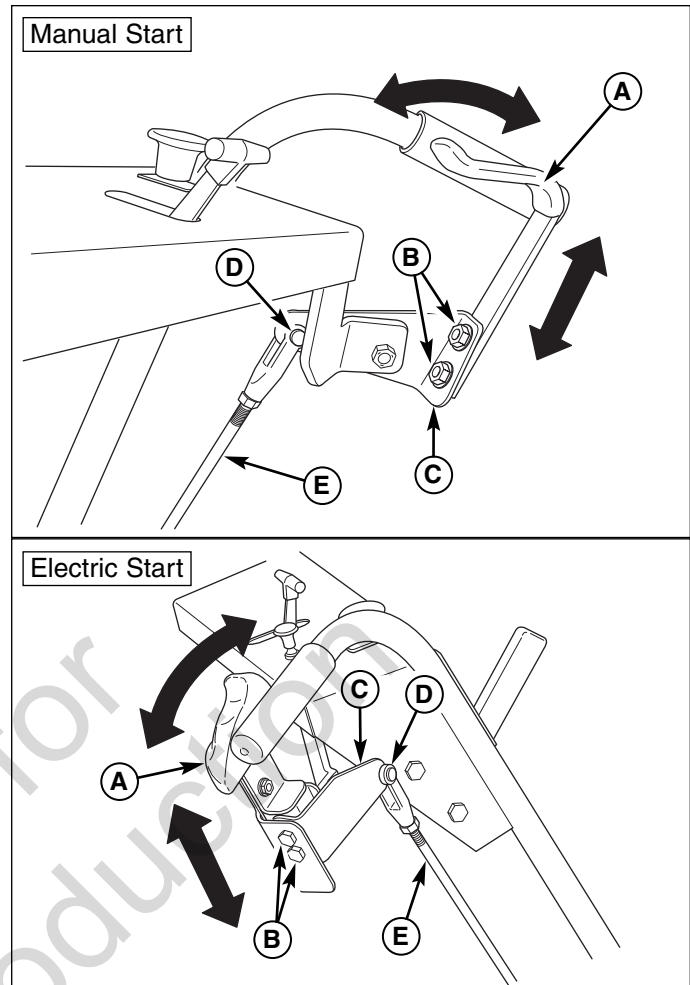

Figure 18. Ground Speed Control Lever Adjustment
1. Loosen the lever fastener (B, Figure 18) to adjust the lever height. Make sure the levers are parallel with the handle bars in both forward and reverse without contacting the handle bars.